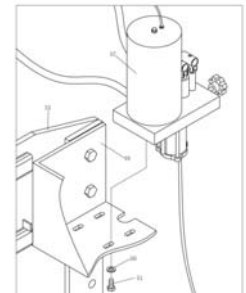
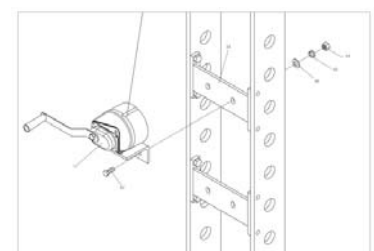

Figure 3
Figure 5
- Assemble the nylon ring (42) to gauge fitting (43), then put the pressure gauge (41) and twist tight. Remark: twist as tight as possible, otherwise it may leak. Attach the gauge fitting to the suitable upper cross beam and twist bolt (44)
- Pump assembly: attach the pump assy' (57) to pump setting plate (49) by using three bolts (51) and lock washer (50) and twist tight. (figure 3, 4)
- Oil hose 1 assemble: dismantle the plug from oil hose 1 (58) then assemble the o-ring(45), also dismantle the plug from ram assy'(37), connect the oil hose 1 (58) to ram assy'(37) and twist tight.
- Oil hose 2 assemble: attach the o-ring (45) to gauge fitting (43), then put the oil hose 2(59) into the gauge fitting (43) and twist tight, connect the PU pipe (A-A). Attach the handle (53) to the pump pin by using bolt (56) and twist tight, also the same as handle 2 (54).
- Remark: before assemble, open the breather valve (61) first which is on the cylinder (pull up the breather valve).
- Move the hand winch (11) to the outside of the post, then use bolt (02), washer (06), lock washer (05), and nut (04) which were dismantled just now to twist tight and fix to the relevant roller. (figure 5)